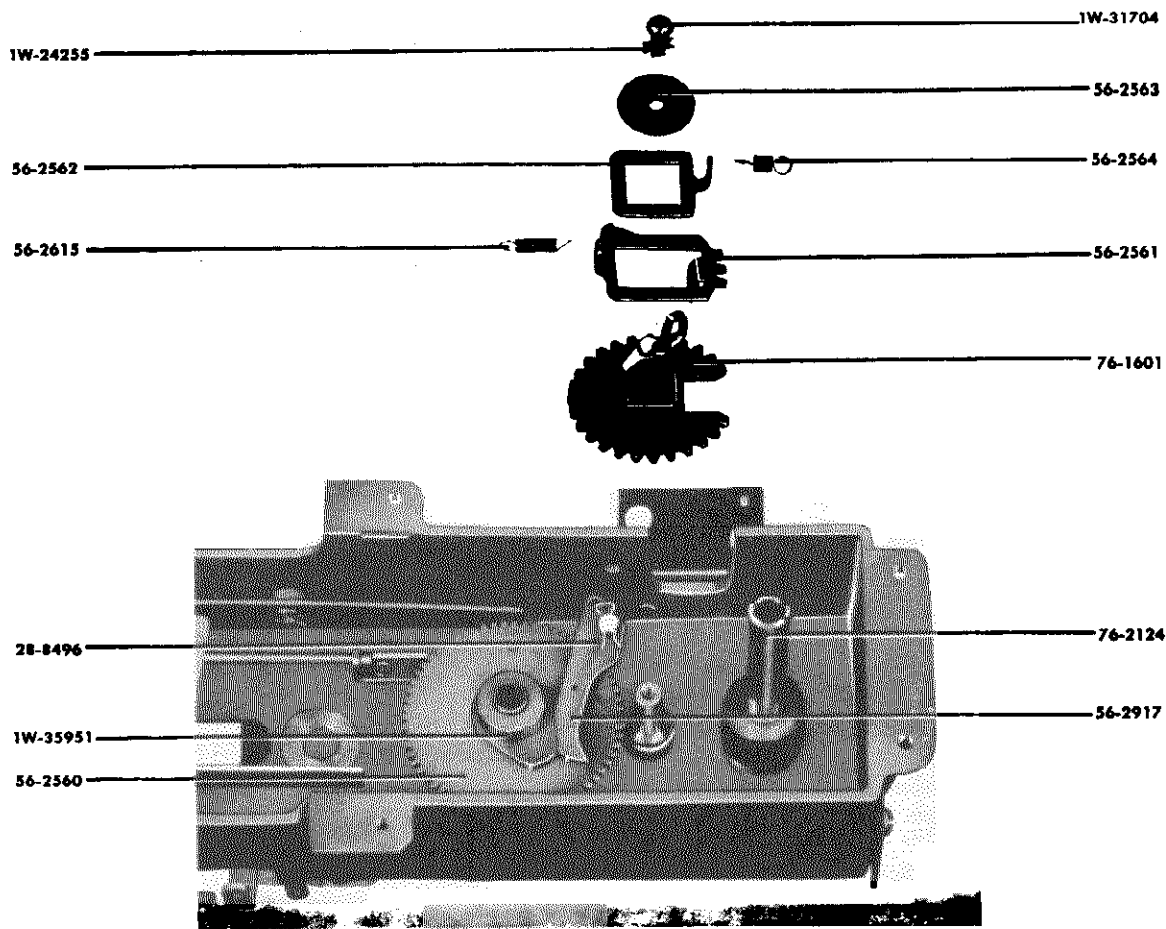

Figure 28—CHANGER MECHANISM, DISASSEMBLY OF INTERMEDIATE GEAR.
- Remove two springs, 56-2564 and 56-2615, from latch and segment gear. See figure 28.
- Remove retaining spring 28-8496, figure 28, and remove cam lever 56-2917.